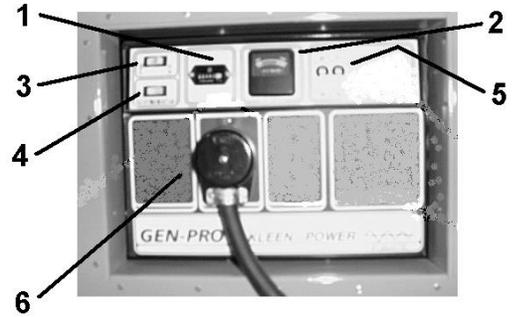

FIGURE 6 – Receptacle Panel
The receptacle panel is to be used if you plan on supplying power to the air conditioner via the motor/gen-set. **Figure 6** is a description of all nine parts of the receptacle panel. The receptacle panel is located on the tongue end of the MACH-IV.
- b. Motor/Gen-Set – Insert plug into motor/gen-set as shown in **Figure 6 – Receptacle Panel.**
- a. If using generator set, locate the "Press-to-Start" rocker switch and the "Stop-Run" rocker switch as mounted on top left hand side of receptacle panel. See **Figure 6 – Receptacle Panel.**
- b. Move the "Stop-Run" switch to the run position (no action will take place). Move the "Press-to-Start" switch to "Start". This is a spring loaded momentary switch and it must be held in the "Start" position. The engine will begin to crank. When the engine starts, continue to hold this "Press-to-Start" switch for (5) seconds, then let go of the switch. It returns to its original neutral position and engine continues to run.